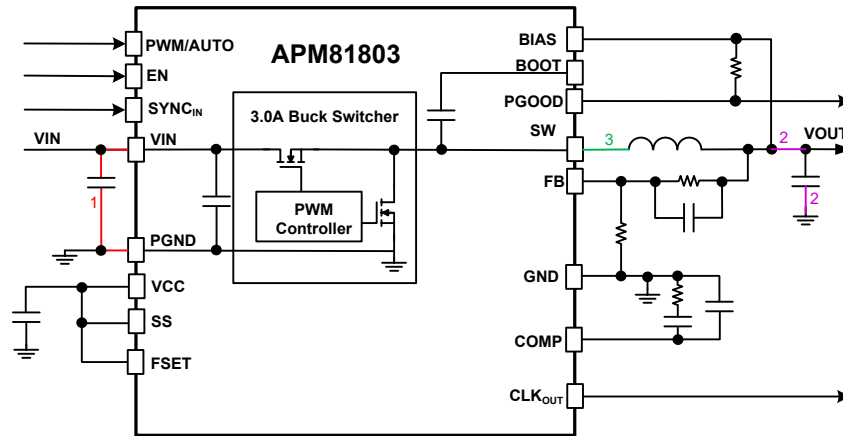

Figure 14: PCB Layout Critical Paths
The APM81803 is designed to minimize electromagnetic (EM) emissions when proper PCB layout techniques are adopted. A good PCB layout is also critical for the APM81803 to provide clean and stable output voltages. Design guidelines for EMI/EMC-aware PCB layout and minimum  $R_{\theta JA}$  are presented below. Figure 14 shows a typical application schematic of a synchronous buck regulator IC with critical power paths/loops.
- Place the ceramic input capacitors as close as possible to the VIN pin and PGND pins to make the loop area minimal, and the traces of the input capacitors to VIN pin should be short and wide to minimize the inductance. This critical loop is shown as trace 1 in Figure 14. The bulk/electrolytic input capacitor can be located further away from VIN pin. The input capacitors and APM81803 IC should be on the same side of the board with traces on the same layer.
- Place the output capacitors relatively close to the output inductor ( $L_O$ ) and the APM81803. Ideally, the output capacitors, output inductor, and the APM81803 should be on the same layer. Connect the output inductor and the output capacitors with a fairly wide trace. The output capacitors must use a ground plane to make a very low-inductance connection to the PCB GND. These critical connections are shown as trace 2 in Figure 14.
- Place the output inductor ( $L_O$ ) as close as possible to the SW pin with short and wide traces. This critical trace is shown as trace 3 in Figure 14. The voltage at SW node transitions from 0 V to  $V_{IN}$  with a high  $dv/dt$  rate. This node is the root cause of many noise issues. It is suggested to minimize the SW copper area to minimize the coupling capacitance between SW